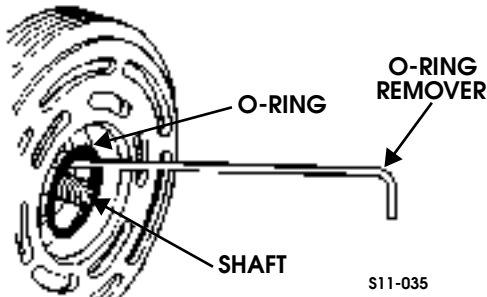

Figure 11-44: O-Ring
- Using O-ring remover, remove and discard seal seat O-ring from the compressor neck (Figure 11-44).